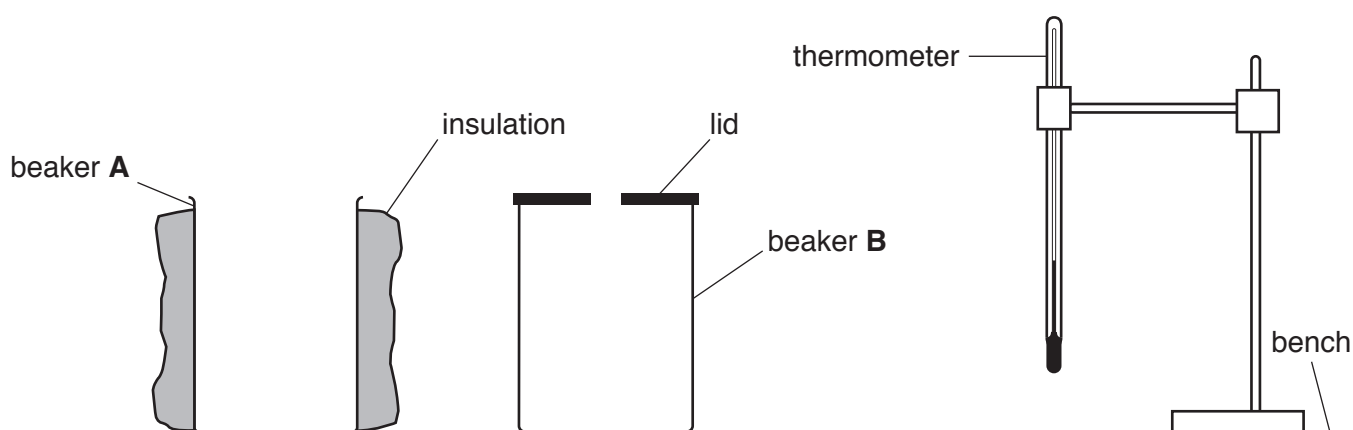

Fig. 2.1
- (iv) Insulation material to cover the sides of beaker **A** as shown in Fig. 2.1.
- (v) Lid for beaker **B** as shown in Fig. 2.1, with a hole for the thermometer. Rigid card or thin wood are suitable.
1. The thermometer, clamp, boss and stand are to be set up for candidates as shown in Fig. 2.1. The thermometer bulb must be well below the  $100\text{cm}^3$  level of the beakers. Candidates must be able easily and safely to read temperatures up to  $90^{\circ}\text{C}$  and to move the thermometer in and out of the beakers.
2. The beakers are to be provided to candidates with the insulation and lid fitted as shown in Fig. 2.1.
Empty the water from the beakers and measuring cylinder. Check that the apparatus is intact and is arranged as in Fig. 2.1.